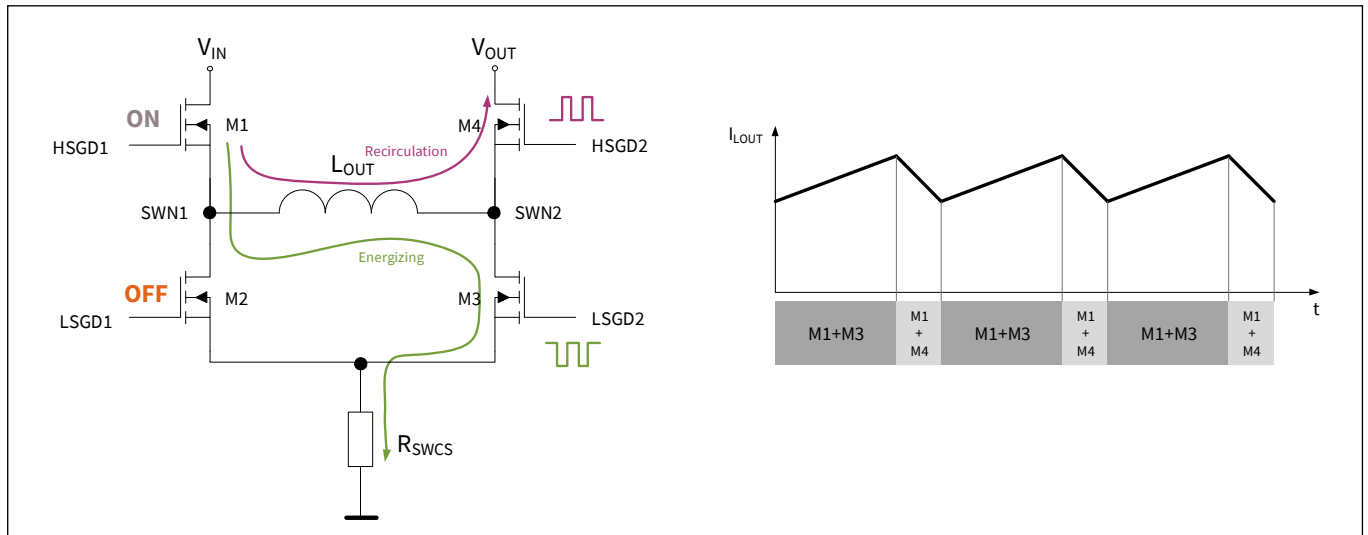

Figure 12 Boost mode operation of H-bridge MOSFETs
- M3 and M4 switches alternatively with PWM control, behaving like a typical synchronous boost regulator (see Figure 12)